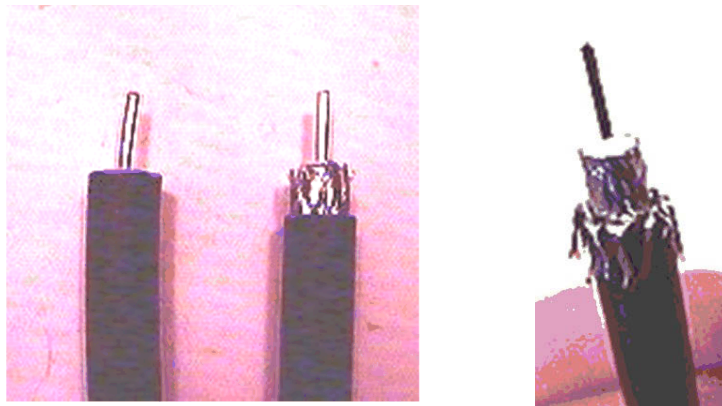

Figure B-3. Folding the Braid
4. Fold the braid back over the jacket and trim the braid to the length as defined under **Length C** in Table B-1 on page 62 and shown in Figure B-3.